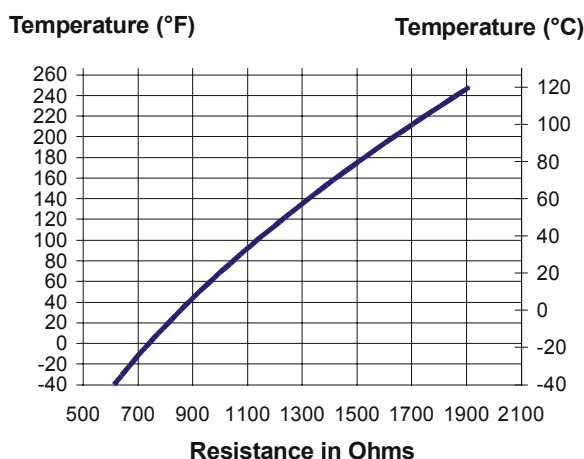

Figure 7: Temperature vs. Sensor Resistance
- e. Consult Figure 7 to verify that the measured temperature and resistance conform to established temperature and resistance values.
- f. If the measured values conform to the values in Figure 7, proceed to Step 3.
- Press the **Up** and **Down** (arrows) to change the Setpoint temperature above and below the sensor temperature until the relay energizes and de-energizes as shown in Figure 7.
- If the output relay does **not** perform as indicated in Figure 7, replace the A419 control.